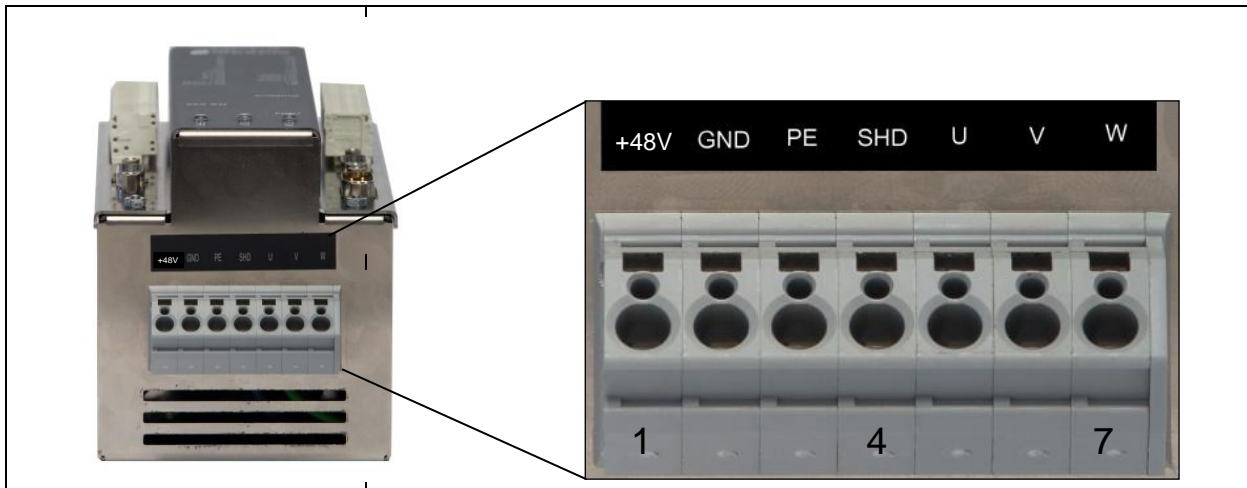

Figure 8 Position of X1 terminal strip (motor and power supply for controller)
2. Connect the STM's motor phases to terminal strip X1 of the MCS-12 controller (see Figure 8 page 36).